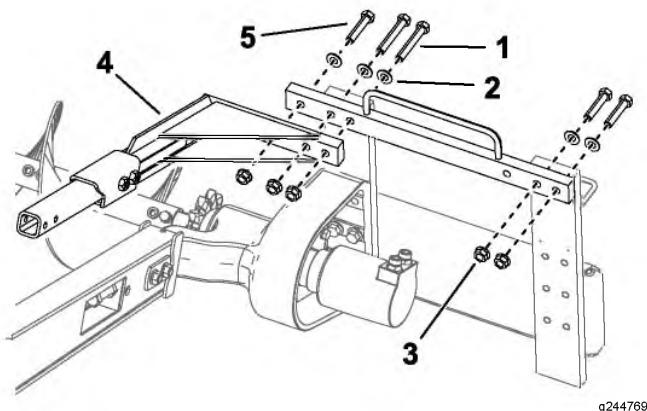

Figure 9
1. Bolt (6)
8. Remove the 2 bolts (5/8 x 3 inches), 2 washers, and 2 nuts securing the right side of the upper frame and move them to the corresponding holes on the left (Figure 9).
1. Bolt—5/8 x 4 inches (2)	4. Safety bar
2. Washer (5)	5. Bolt—5/8 x 3 inches (3)
3. Nut (5)
9. Install the safety bar over the trencher chain using the 3 bolts, washers, and flange nuts removed previously (Figure 9).